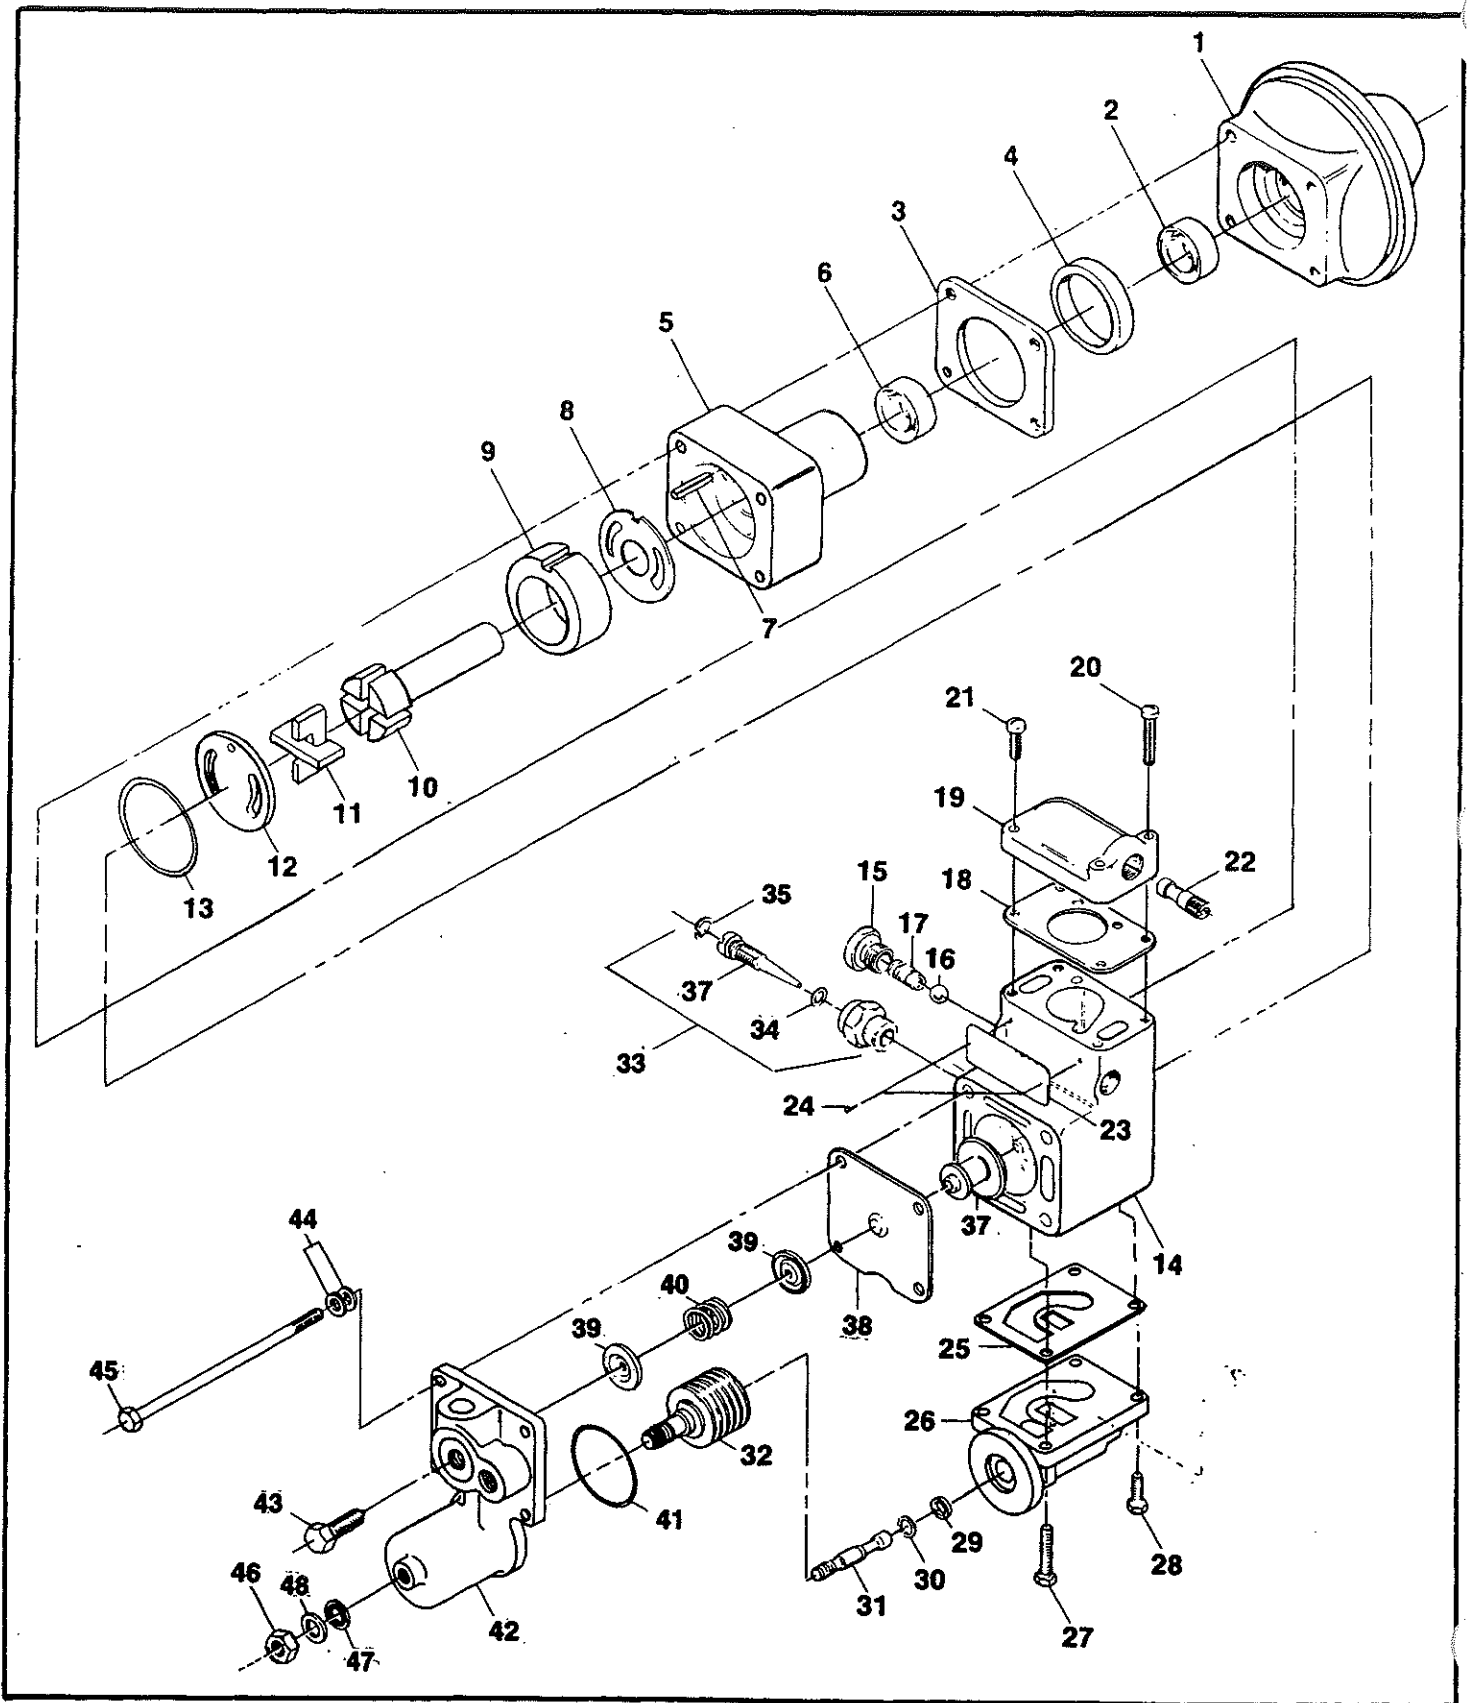

FIGURE 50-01. FUEL PUMP ASSEMBLY.
A. Place pump assembly in suitable fixture and remove all lockwire. Refer to 50-01. Remove screw (43) from cover (42) to release spring pressure. Remove nut (46), plain washer (48) and seal washer (47), from aneroid adjusting screw. Remove four bolts (45) from pump assembly and vapor separator relief valve aneroid assembly (14 through 48). Remove this section from basic pump assembly (5 through 13). Separate cover (42) from body (14) and (26) while screwing down on aneroid (32). Use care when removing cover so as not to stretch aneroid (32) or compress it by screwing it too far into cover (42) prior to separation from body (26).
B. Remove screws (27 and 28), variable orifice body (26), gasket (25) and "O" ring (42). Remove aneroid (32) and rod (31) from body. The rod seal (29) and retaining ring (30) can be removed for replacement by soaking the variable orifice body (26) in a mixture of 80% Glacial Acetic acid and water, then scrape off the softened epoxy, if epoxy was used. Remove ball (16), spring (17) plug (15) and jet assembly (33, 34, 35 & 36) from vapor separator body. Remove screws (20 & 21), cover (19), gasket (18) and ejector (22).
C. Disassembly of the basic pump should be accomplished in the following manner. Refer to exploded view Figure 50-01 and remove the adapter (1) and insulator (3) from the basic pump. Remove seal (2) from adapter (1) and bushing (4) from insulator (3). Hold pump body firmly in palm of hand, end plate (12) down, and apply pressure to drive end of rotor shaft (10) forcing end plate (12), end plate seal (13), blades (11) and shaft (10) from pump body. Remove seal (6) and discard. It is important to note the liner position relative to the rotation marking found on the top surface of the liner. It must be installed with the proper marking (C or CC) in the up position.
A. Reassemble basic pump (5 through 13) in reverse order of disassembly. Refer to Figure 50-01, and install new seal (6) in body (5). Install pin (7), plate (8) and liner (9) in body (5). Be sure liner is installed with proper rotation lettering visible. Use light machine oil to lubricate shaft (10) and install in pump. Install blades (11) in position and lubricate lightly. Install plate (12) and seal (13) to complete basic pump assembly. Install new seal (2) in adapter (1). Install bushing (4) and insulator (3) on pump assembly and insert pump assembly (3 through 13) into adapter assembly (1).
B. Refer to exploded drawing Figure 50-01, and assemble vapor separator, relief valve and aneroid sections as follows:
C. Install seal (29) in body (26). Apply a thin layer of Loctite 290 in the retaining ring groove and install retaining ring (30). Insert aneroid and rod assembly into body (26).
D. Install to body (14), gasket (18) and cover (19), secure with screws (20) and (21) using Loctite 242. Install ejector (22) in cover (19).